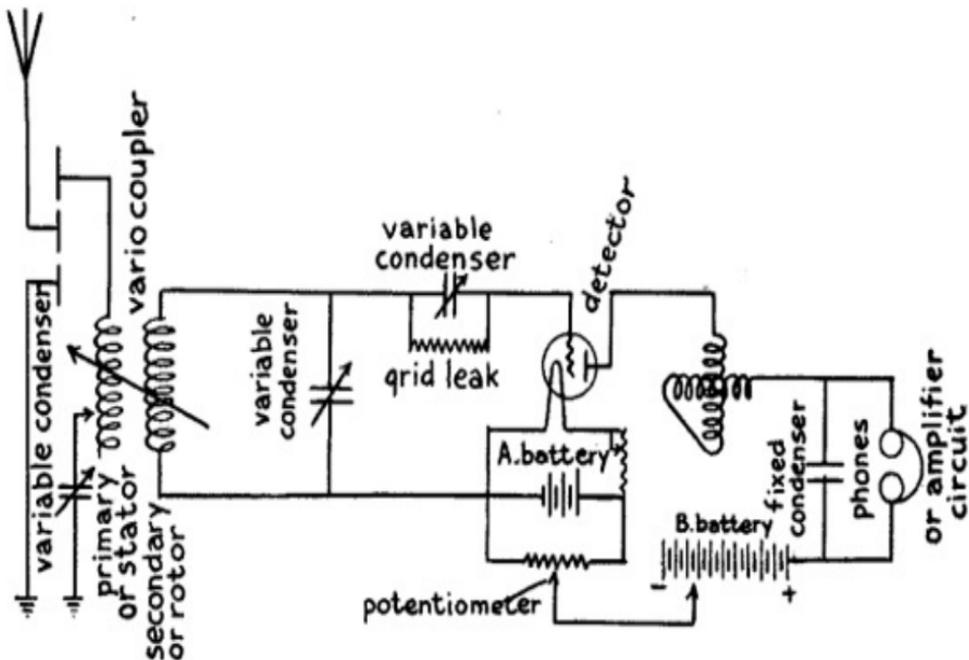

FIG. 55.—Short Wave Regenerative Receiving Set (one Variometer and three Variable Condensers.)
*Connecting Up the Parts.*--To hook-up the set connect the leading-in wire to one end of the primary coil, or stator, of the variocoupler and solder a wire to one of the taps that gives the longest wave length you want to receive. Connect the other end of this wire with one post of a .001 microfarad variable condenser and connect the other post with the ground as shown in *Fig. 55*. Now connect one end of the secondary coil, or rotor, to one post of a .0007 mfd. variable condenser, the other post of this to one end of the grid coil and the other end of this with the remaining end of the rotor of the variocoupler.
Shunt the potentiometer around the *A* battery and connect the sliding contact with the - or zinc pole of the *B* battery and the + or carbon pole with one terminal of the headphone; connect the other terminal to one of the posts of the variometer and the other post of the variometer to the plate of the detector. Finally shunt a .001 mfd. fixed condenser around the headphones. If you want to amplify the current with a vacuum tube amplifier connect in the terminals of the amplifier circuit shown at *A* in *Figs. 44* or *45* at the point where they are connected with the secondary coil of the loose coupled tuning coil, in those diagrams with the binding posts of *Fig. 55* where the phones are usually connected in.